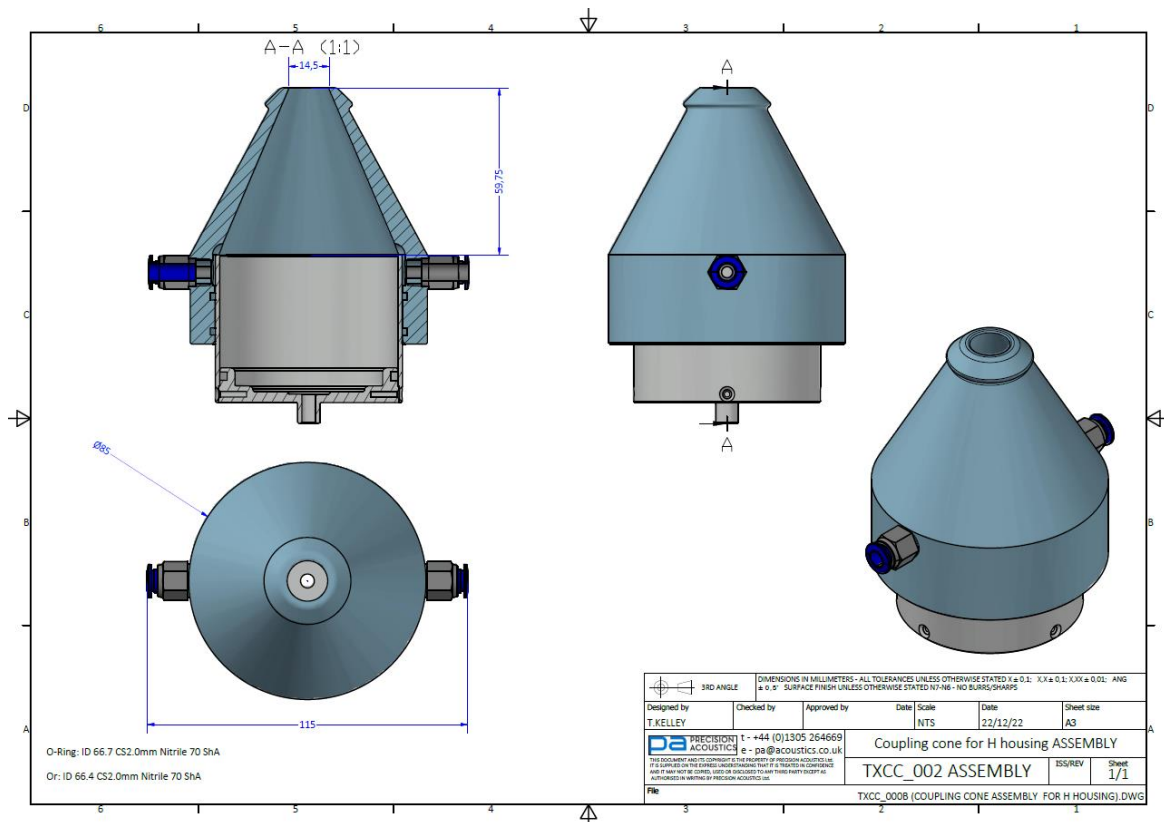

Figure 2. Coupling cone assembly (incl. transducer) for TXH-1-75 and TXH-0.67-75
- Figure 2. Coupling cone assembly (incl. transducer) for TXH-1-75 and TXH-0.67-753